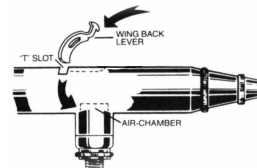

Figure 1
- 2) Insert winged back lever (50-042) into "T" slot at top of airbrush body and move forward (fig 1). Make sure back lever is behind the air chamber (as shown in fig 2). Screw in tube shank and entire assembly.
The exercise shown in fig. 1 is accomplished by practicing the triggering technique explained on page 3. Pull back slightly on the trigger, while air is on, to create a fine line. Approximately half way through your stroke motion push trigger forward to discontinue paint flow. While continuing your stroke motion slightly pull trigger back again to re-create your fine line pattern. This exercise will enable you to draw straight lines without forming dots or puddles at the beginning and end of each line. Fig. 2 is parallel line graduating from narrow to broad. These are made by releasing more color and at the same time, lifting the airbrush away from the surface. Practice daily to develop trigger action control. Fig. 3, layout in pencil 1/2 inch squares. Airbrush the dots as small as possible and connect dots with straight lines of even tone. Practice every lesson carefully before proceeding to the next one.